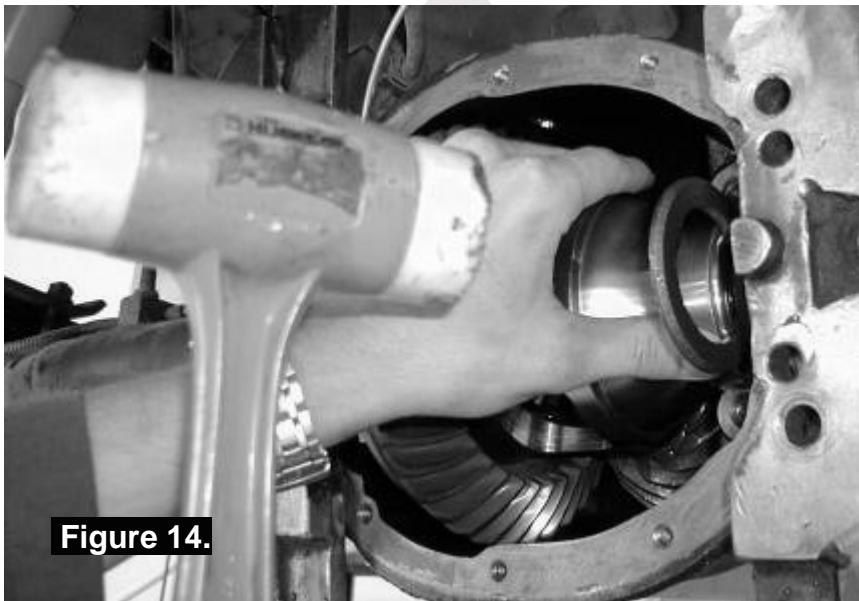

Figure 14.
- While holding the *Air Locker* into the axle housing, lightly tap the right-hand shim pack into place on the right-hand side between the bearing cup and the bearing seat of the axle assembly. (Refer to Figure 14.)